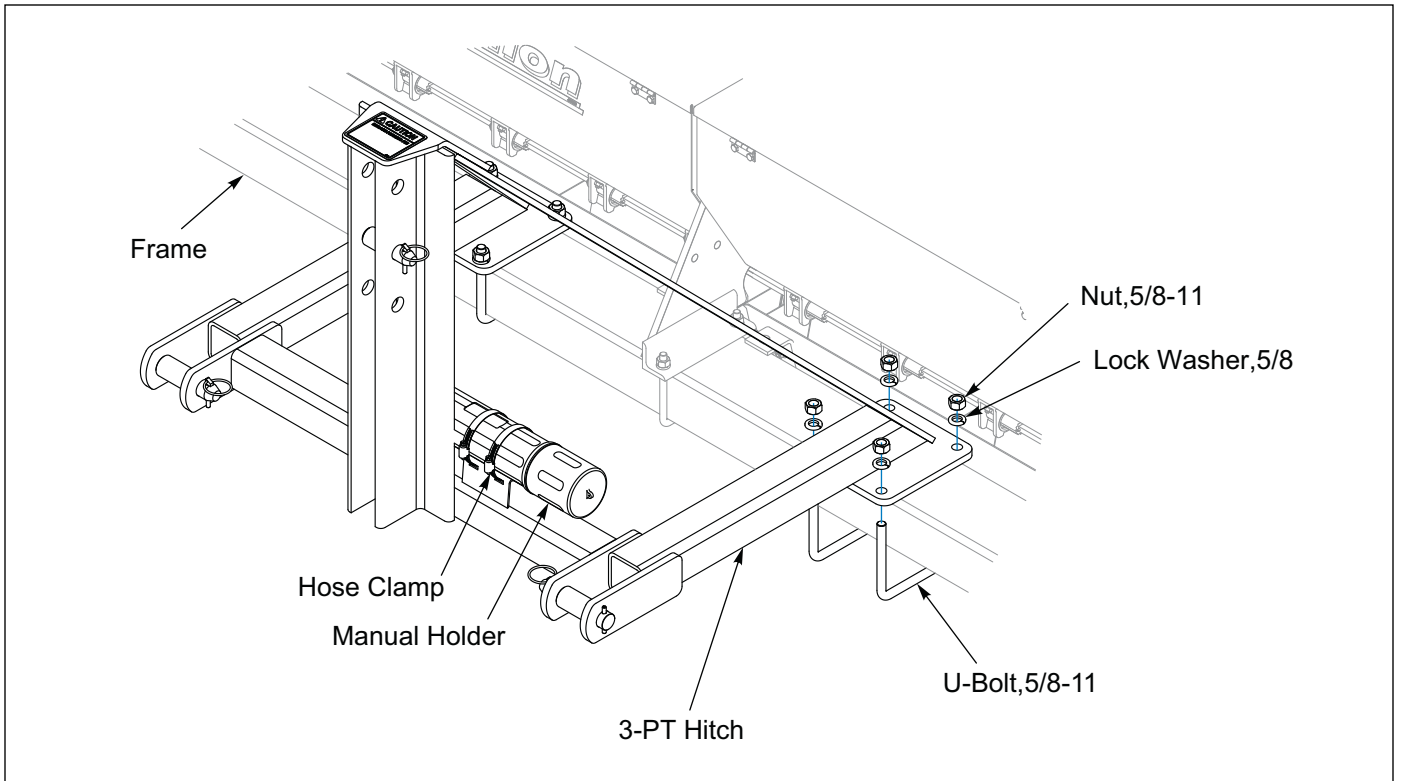

Figure 2-5: Attach 3-PT Hitch
2. Center 3-PT Hitch Assembly in relationship with the Seed Box Center Bracket. Attach 3-PT Hitch to Seeder Frame Tube with 5/8-11 U-Bolts, Lock Washers and Nuts. **See Figure 2-5.**